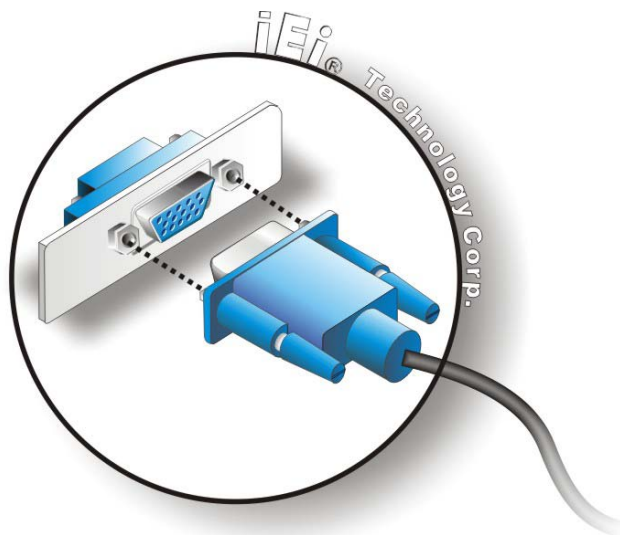

Figure 3-27: VGA Connector
- Step 3: Insert the VGA connector.** Once the connectors are properly aligned with the insert the male connector from the VGA screen into the female connector on the uIBX-210-CV-N2600. See **Figure 3-27**.